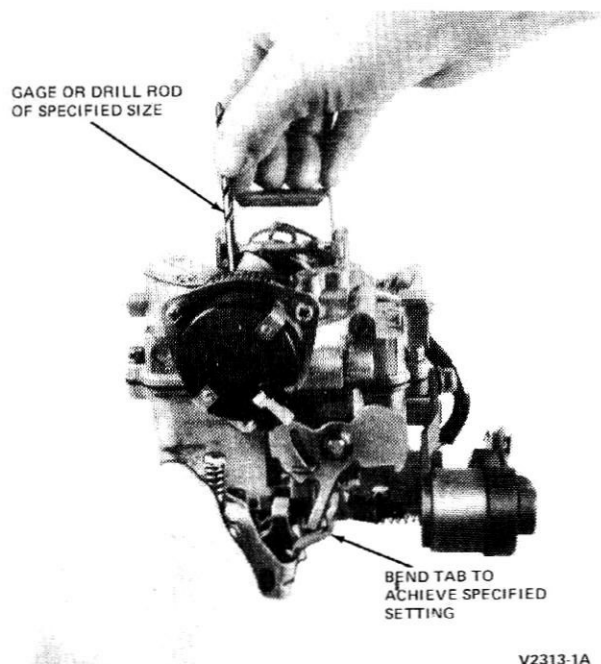

FIG. 14 Dechoke Adjustment
1. With the engine off, hold the throttle in the wide open position (Fig. 14).